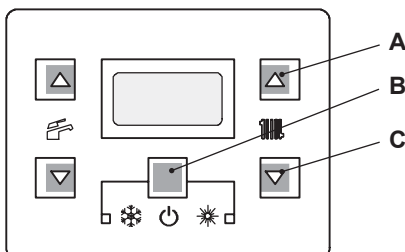
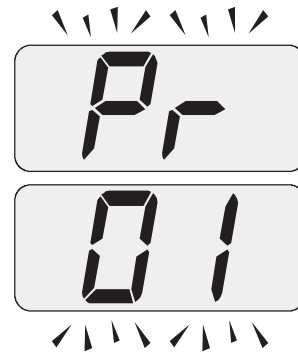
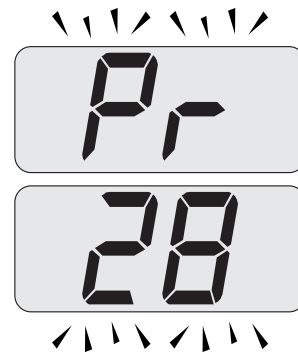
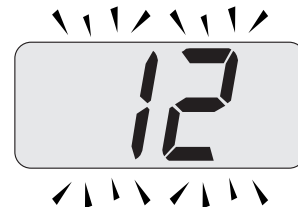

Figure 4.1
Figure 4.2
Figure 4.3
Figure 4.4
- 1 To enter in the parameters setting mode press sequentially the 3 keys "B - C - A" (Figure 4.1) and hold in for 10 second until the display shows Figure 4.2.
- 2 Scroll the various parameters using keys "A" or "C" (Figure 4.1) until the LCD display indicates the letters **Pr**, alternating with the code **28**, indicating entry in "parameter 28" (Figure 4.3).
- 3 Press keys "B" and "A" (Figure 4.1) at the same time until the LCD display indicates the value of parameter 28 (e.g. 12 default value) Figure 4.4.
- 5 By pressing key "B" (Figure 4.1) confirmation of the inserted value is obtained.
- 6 By pressing keys "B" and "C" (Figure 4.1) together, you will exit without changing the value (return to parameter list Figure 4.3).
- 7 Press keys "B - C - A" (Figure 4.1) together for 10 seconds to exit "programming mode".